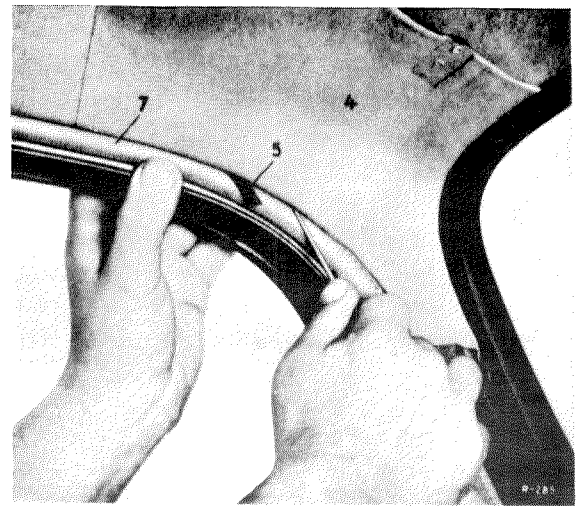

Fig. 69 — 2/2
8. Along the roof side rail above the door opening the headlining (4) is fastened by means of a 5 mm rubber tube (5) under a fixing rail (1) is shown in Fig. 69 — 2/2; the fixing rail (1) is shown in Fig. 69 — 2/3). By means of an awl pry out the rubber tube (5) at the front end of the headlining between the draft excluder (7) and the headlining (4) and pull it out by carefully pulling along the door opening; at the same time, the draft excluder (7) is pushed outward.